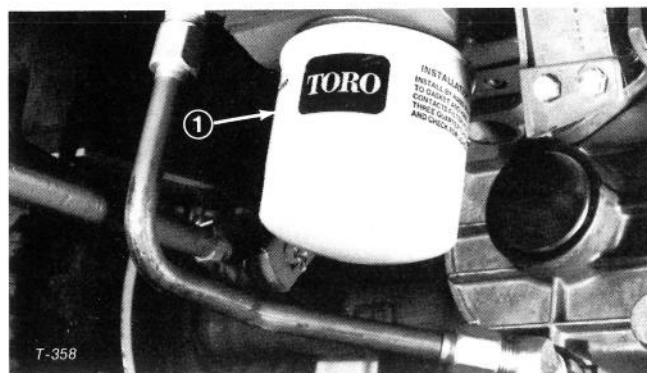

Figure 52
1. Clean area where hydraulic oil filter mounts. Remove filter from transmission (Fig. 52) and clean oil filter mounting surface on bottom of transmission.
3. Clean area around hydraulic oil filter and remove filter (Fig. 52).